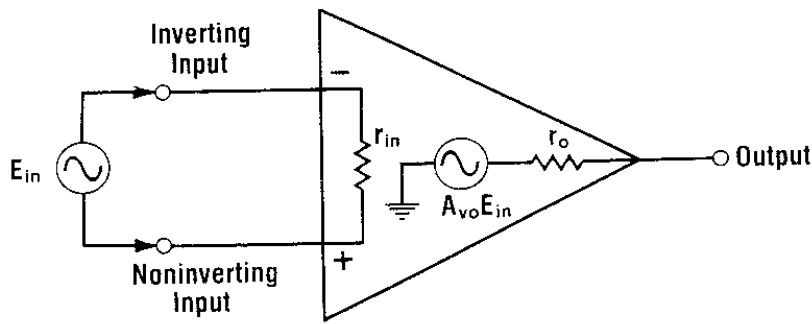

Figure 4. The equivalent circuit of an ideal operational amplifier.
26) For the ideal operational amplifier in Figure 4
27) For a real operational amplifier similar to that pictured in Figure 4 the bandwidth is infinite.
28) For a real operational amplifier similar to that pictured in Figure 4 the output will not be exactly zero if the difference between the + and - inputs is zero.